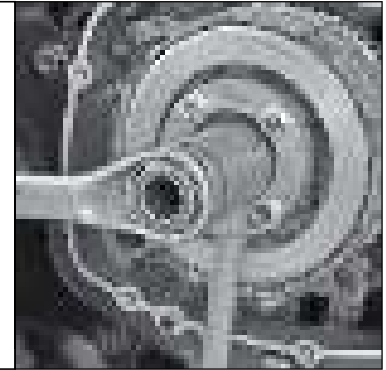

Fig. 1.11B
- Used to remove / reassemble the clutch nut during clutch servicing. (Fig. 1.11B)